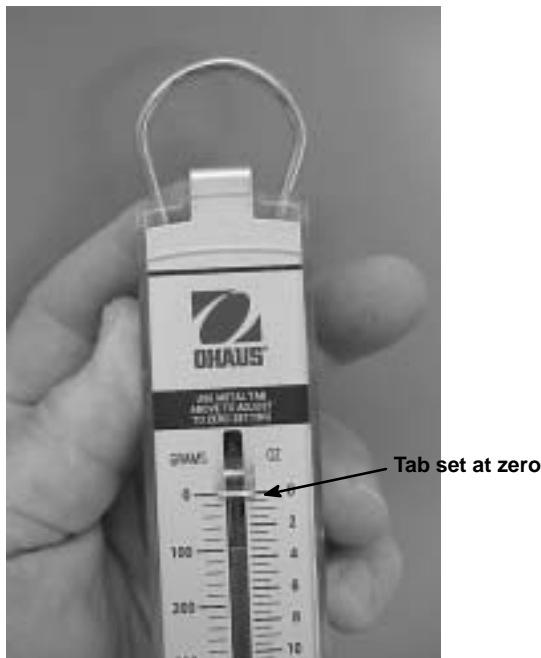

Figure 3. Reset Scale to 0 (zero)
- a. Make sure the spring scale is reset to 0. To do this, hold the scale upright (logo at the top) and push or pull the aluminum tab at the top of the tool. See Figure 3.